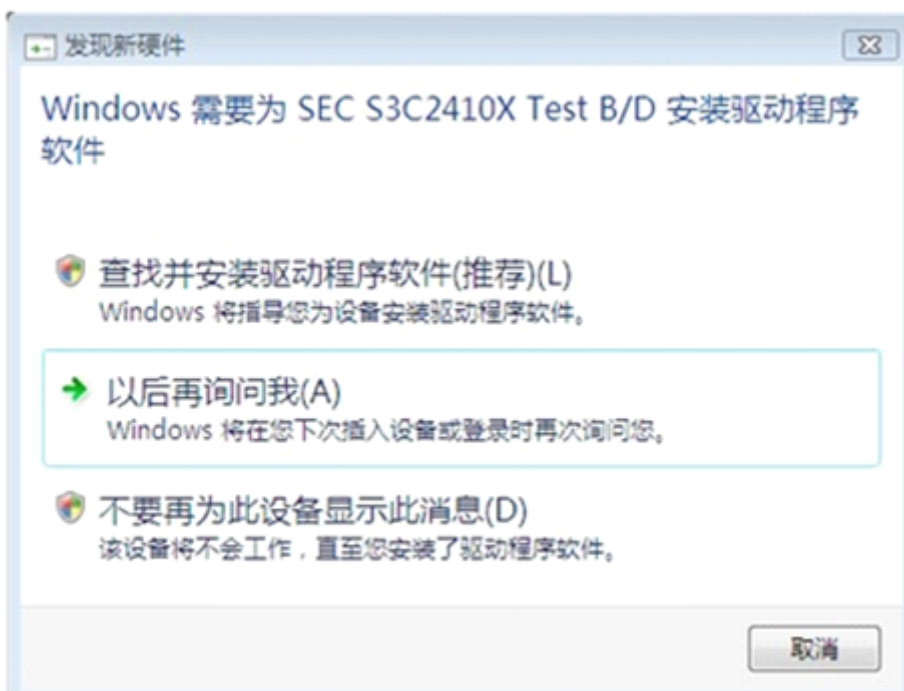

Figure 2-17: VISTA identifies the driver
- Connect the USB cable of the touch screen to the PC, and then a page as shown in Figure 2-17